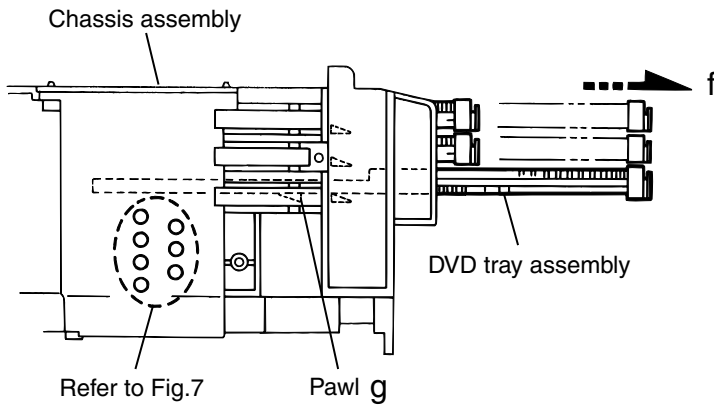

Fig.6
9. Make sure that the driver unit elevator is positioned as shown in Fig.6 from to the second or fifth hole on the left side face of the DVD Traverse mechanism assembly.
(See Fig.6).